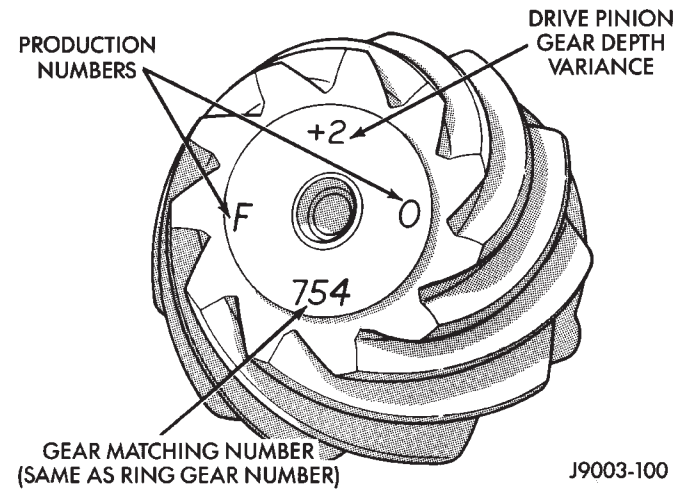

Fig. 64 Pinion Gear ID Numbers
Ring and pinion gears are supplied as matched sets only. The identifying numbers for the ring and pinion gear are etched into the face of each gear (Fig. 64). A plus (+) number, minus (-) number or zero (0) is etched into the face of the pinion gear. This number is the amount (in thousandths of an inch) the depth varies from the standard depth setting of a pinion etched with a (0). The standard setting from the center line of the ring gear to the back face of the pinion is 96.850 mm (3.813 in.). The standard depth provides the best teeth contact pattern. Refer to Backlash and Contact Pattern Analysis Paragraph in this section for additional information.
(9) Select a shim equal to the dial indicator reading plus the drive pinion gear depth variance number etched in the face of the pinion gear (Fig. 64) using the opposite sign on the variance number. For example, if the depth variance is -2 , add $+0.002$ in. to the dial indicator reading.